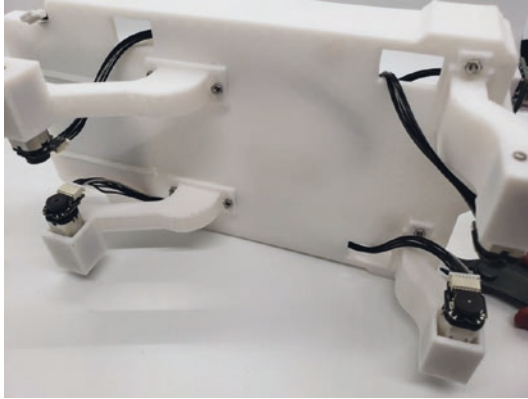

Figure 8-57. *Attach the JST cables to the four motors*
13. Attach the four JST cables to each of the four motors in the wheelbases and put them through the motor cable passthrough holes on the NatBot chassis. See Figure 8-57.